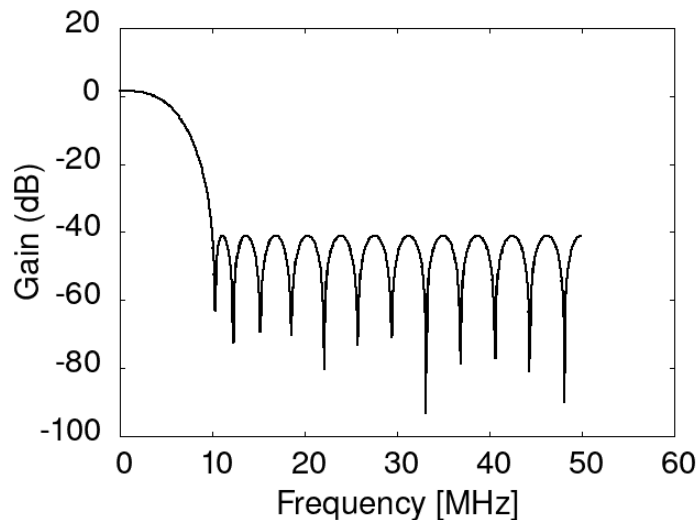

Figure 2: The gain in dB versus frequency of the FIR low-pass filter we will use in this lab activity.
A finite impulse response (FIR) filter takes digitized data as the input, and returns modified data of the same shape as the output. Let n represent the number of samples of digitized data. Let $x[n]$ represent the vector of digitized input data, and $y[n]$ represent the digitized output data. Let z^{-1} represent an operation that selects the prior sample, or the $n - 1$ sample relative to sample n . Let the coefficients b_n multiply the samples $x[n]$ as they pass through an amplifier. Finally, let Σ represent an adder that sums to inputs and produces one output. A generalized circuit diagram for the FIR filter is shown in Fig. 2, and the formula relating the input to the output is given in Eq. 1.
The gain versus frequency of our FIR low-pass filter is shown in Fig. 2. Notice that 0 dB means the input and output have the same amplitude and power. A gain of -3 dB implies the output power is half that of the input.
2. If we pass a 1 Volt, 20 MHz signal through our FIR low-pass filter, what will the final amplitude be in (a) dB (according to Fig. 2), and (b) in Volts?